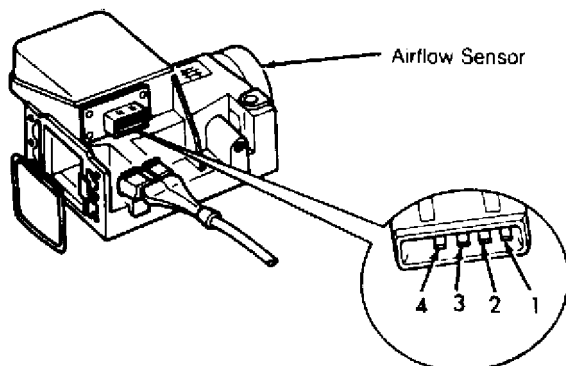

Fig. 2: AFC-Digifant Airflow Sensor & Terminal ID
2) With ignition off, unplug connector from airflow sensor. Attach ohmmeter to airflow sensor terminal. See Fig. 2. Resistance should correspond to AIRFLOW SENSOR PIN CHECK in AFC-DIGIFANT AIRFLOW SENSOR RESISTANCE table.